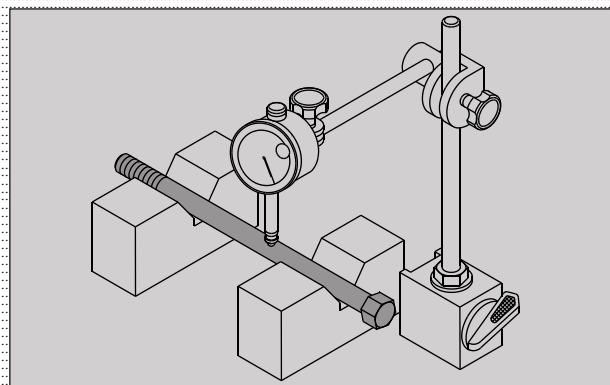

Fig. 6.134
- Using special tools, check shaft complete swing arm for run-out and replace it with a new one if run-out exceeds the limit. (Fig. 6.134)